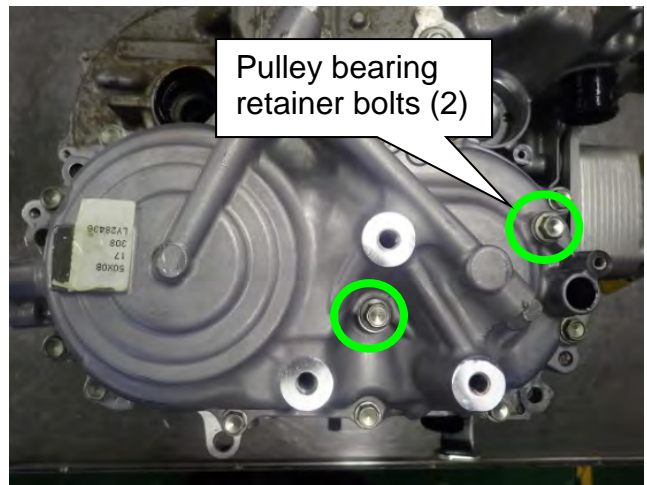

Figure 97
73. Remove the two (2) pulley bearing retainer bolts shown in Figure 97.